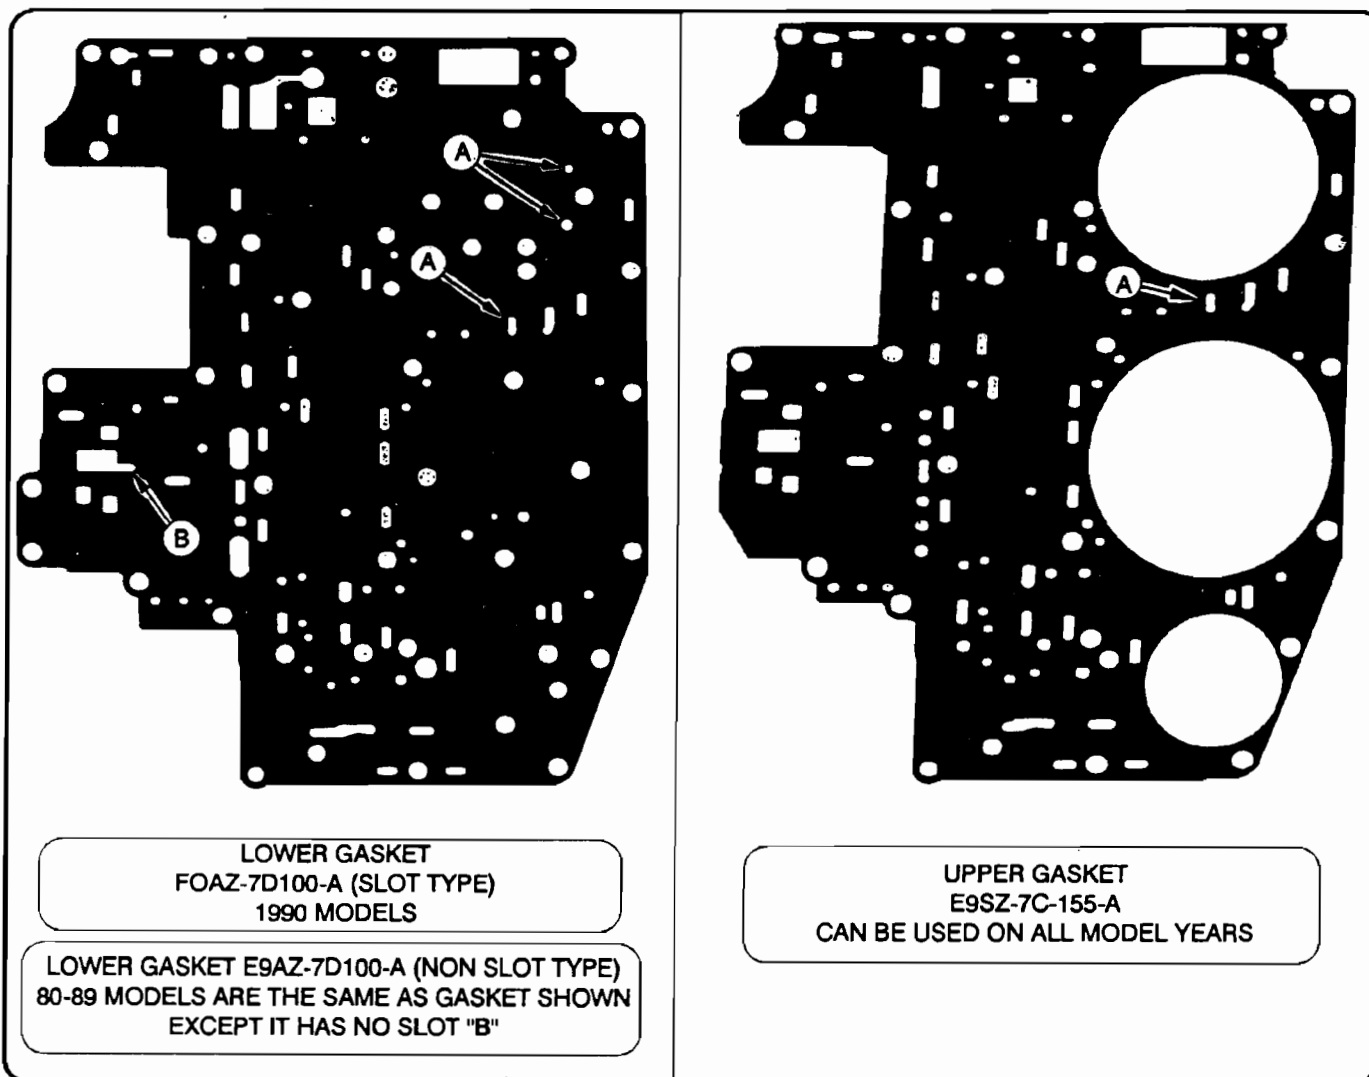

Figure 38
1. Holes marked "A" were added for 1989 model transmissions. If gaskets are used on 1989 models that do not have these holes, it will result in a 1-3-4 upshift pattern (See Figure 38).
2. This slot (B), added for 1990 models. This slot type gasket is also included in part # E9AZ-7D100-B and #E9AZ-7L228-A, ( see "factory available parts".) The slot type gasket can be used on early models **AS LONG AS THE THROTTLE VALVE SPRING IS CHANGED ALSO.** The above part numbers have the throttle spring and instructions included. An early "non slot" gasket used on a 1990 model may result in a reduction of throttle valve pressure and possible failure.